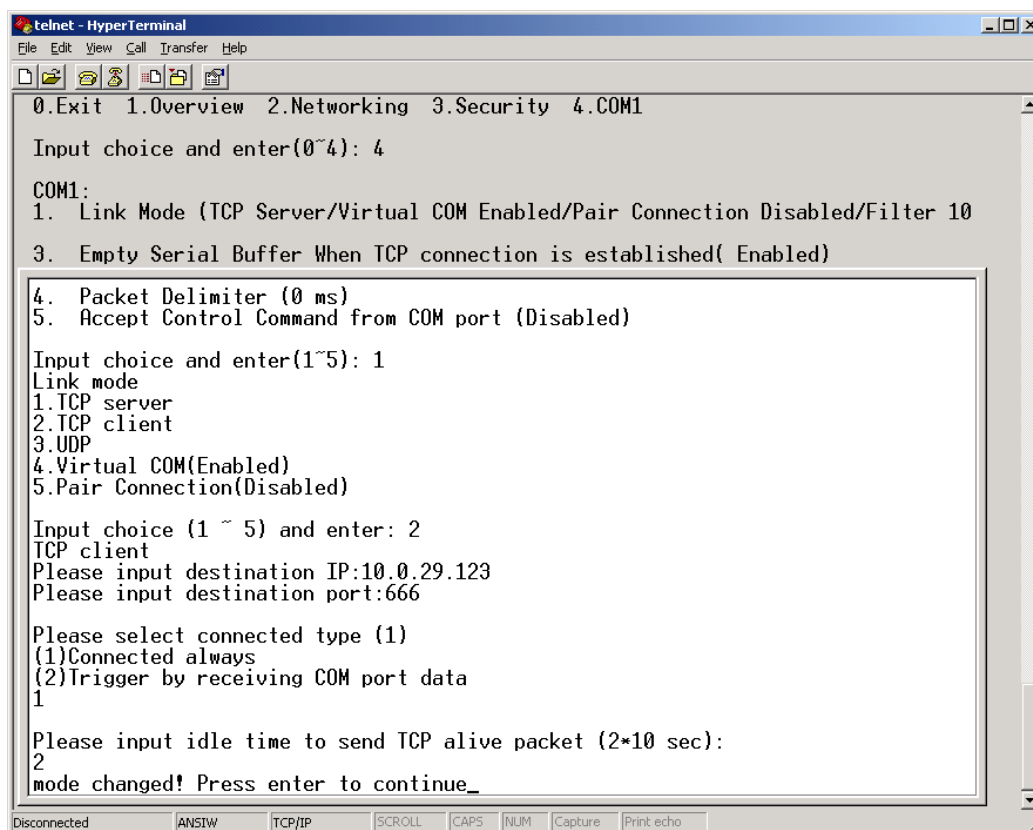

Figure 3.11 Link Mode-TCP client setup
- ➔ Type **2** in the **"Input choice(1~5) and enter :**" (Figure 3.11)